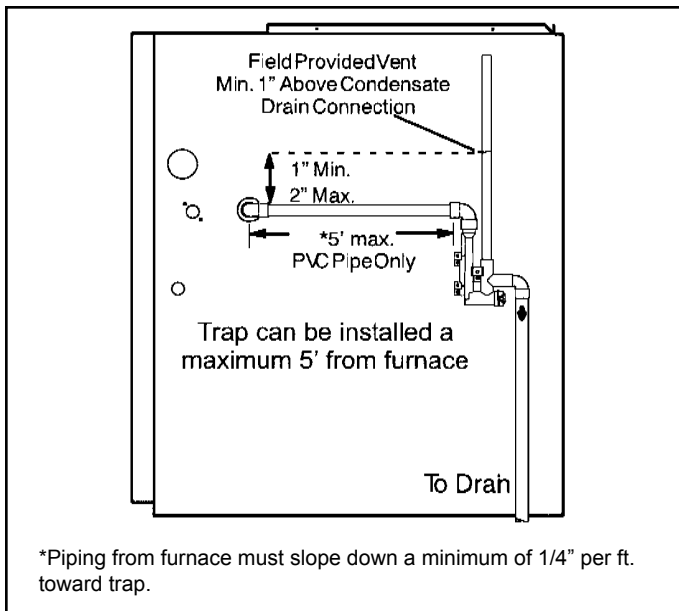
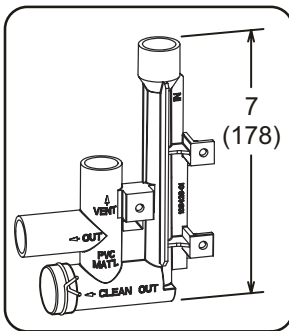

Figure 53. Condensate Trap Locations
Figure 59. Trap / Drain Assembly Using 1/2" PVC or 3/4" PVC
This unit is designed for either right or left side exit of condensate piping in upflow applications. In horizontal applications, the condensate trap must extend below the unit. An 8" service clearance is required for the condensate trap. Refer to Figure 52 and Figure 53 for condensate trap locations. Figure 59 shows trap assembly using 1/2" PVC or 3/4" PVC.
3. Install the cap over the clean out opening at the base of the trap. Secure with clamp. See Figure 59.
Upflow furnace (Figure 53) - In upflow furnace applications the field provided vent must be a minimum 1" to a maximum 2" length above the condensate drain outlet connection. Any length above 2" may result in a flooded heat exchanger if the combined primary drain line were to become restricted.
4. Install drain trap using appropriate PVC fittings, glue all joints. Glue the provided drain trap as shown in Figure 59. Route the condensate line to an open drain. Condensate line must maintain a 1/4" downward slope from the furnace to the drain.